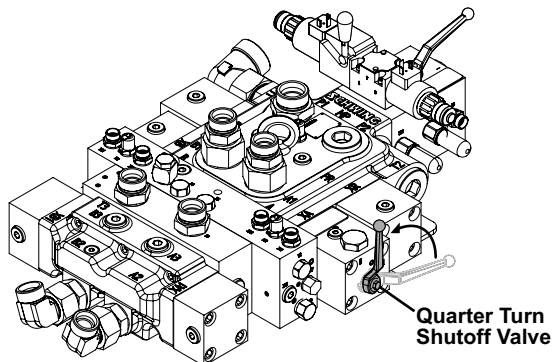

Figure 16
1. Close the concrete pump quarter turn shutoff valve located on the concrete pump control block (Figure 16).